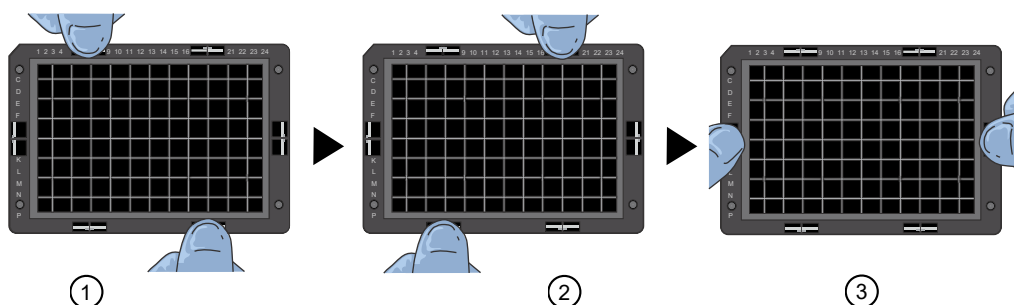

Figure 34 Clamping verification steps.
- ① Chamfer corner.
6. Ensure the clamping of the plate stack to check that the array plate is securely fastened to the hybridization tray. Using your thumbs, press the array plate downward following the positions that are specified in Figure 34. *No clicking sound indicates proper clamping.*